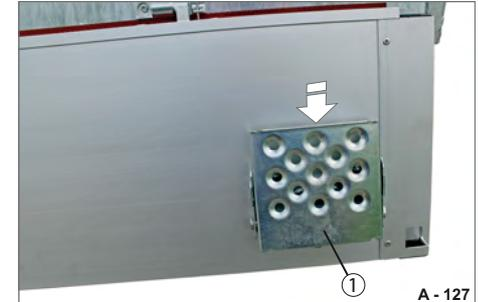

Fig. 183 Folding step, closed
- ▶ Fold the step (Fig. 183/1) upwards and then slide it down.